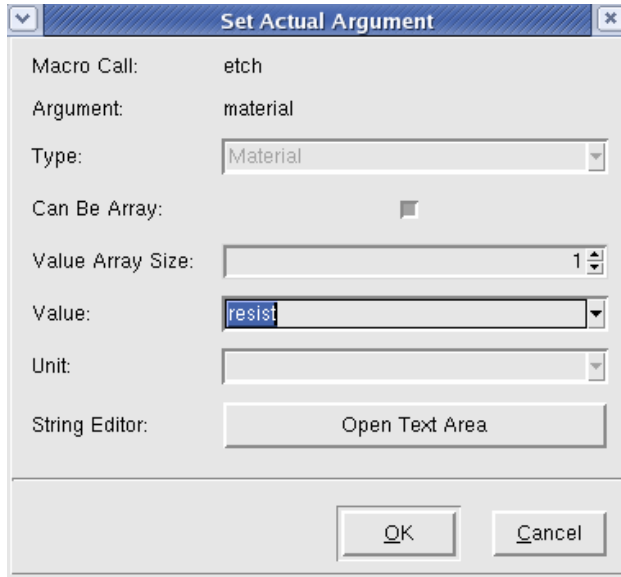
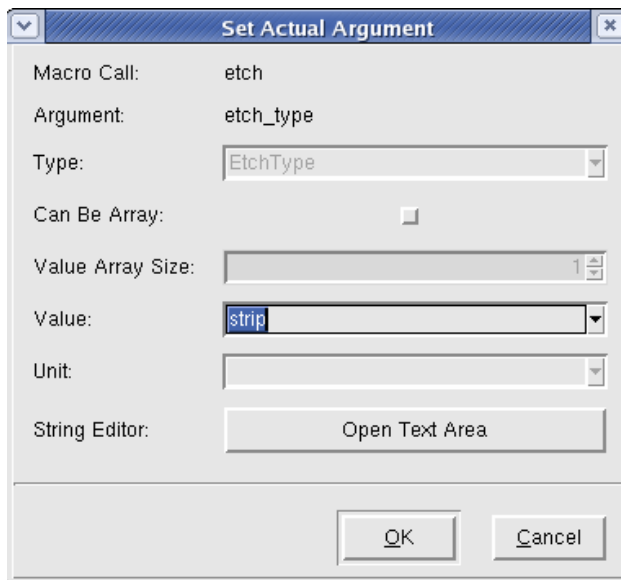

Figure 79: Setting etch step for resist.
Figure 80: Stripping resist.
- Etch of the photoresist by adding and Etch step to the etch step you just did. Set the material to photoresist (Figure 79), the type to strip (Figure 80). Translate the flow (Figure 81), check the syntax, and save. Save GUI flow too. Run in sprocess and view results (Figure 82).